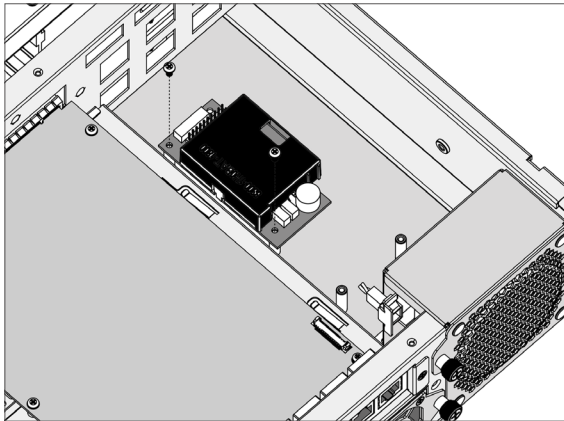

Figure B-3, Secure the Battery Module
2. After removing the cover, then secure the battery pack module (ARC-6120-BAT-12G, reference NO.1 in Figure B-1) in the bottom of the enclosure (for ARC-7108/ARC-7112), as shown in Figure B-3.